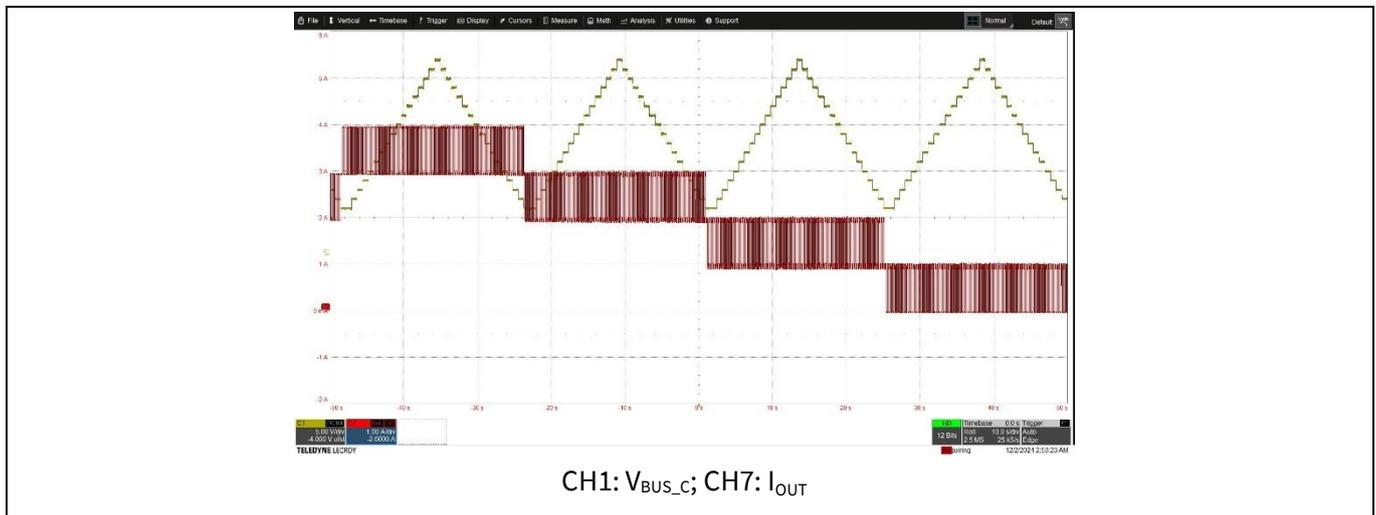

Figure 59 V_{IN} = 230 V_{AC}; V_{BUS_C} – continuously changing from 5.0 V–21 V (PPS) vice versa; I_{OUT} = 0 A to 2 A with 1 A step
- Electrical stress test #1** V_{IN} = 230 V_{AC}; V_{BUS_C}: continuously changing from 5.0 V–21 V with 1 V step and vice versa (PPS); I_{OUT} = 0 A to 2 A with 1 A step for a duration of 60 minutes. Captured waveforms are shown in Figure 59